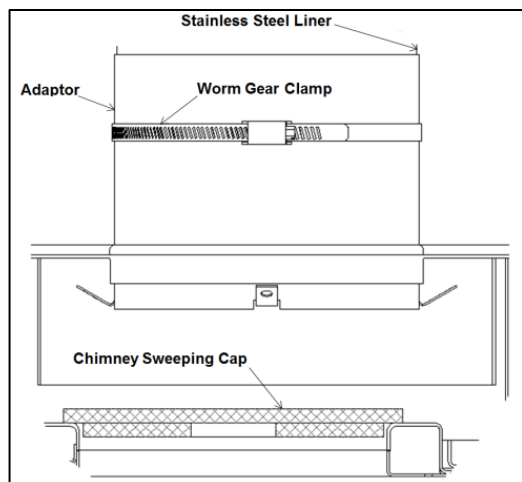

Figure 15: Liner Adaptor Installation
- e) Reposition the chimney sweeping cap back in the chimney sweeping cap hole of the baffle (refer to Figure 15).